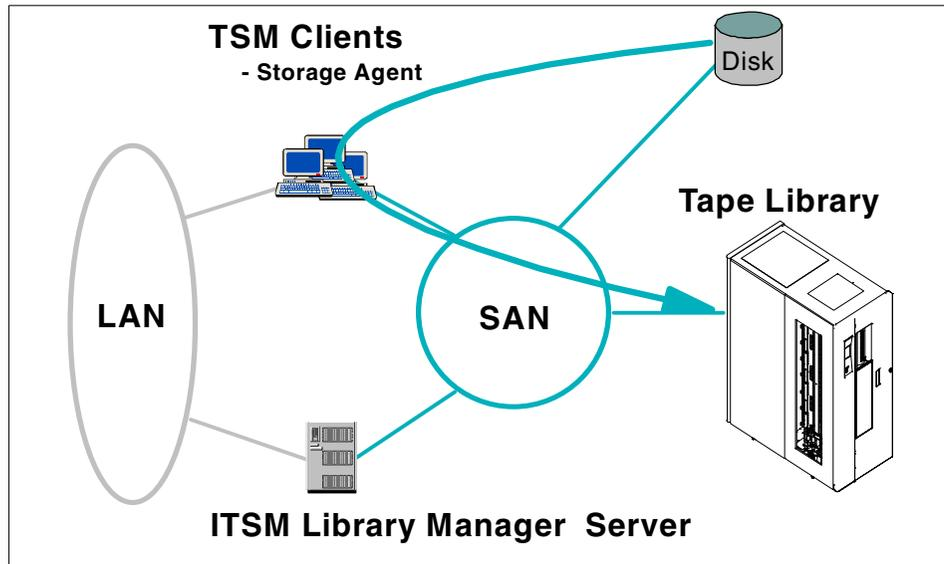

Figure 3-18 Tivoli Storage Manager LAN-free backup
*Managed System for SAN* is a feature of IBM Tivoli Storage Manager that enables LAN-free data movement. The Tivoli Storage Manager client data moves directly to and from a storage device attached to a SAN. A Tivoli Storage Manager storage agent is installed on the client machine and shares storage resources with the Tivoli Storage Manager server. The storage agent can write directly to storage media in a format that is consistent with that used by the server. The Tivoli Storage Manager server or servers controls the storage devices and keeps track of the data that the client has stored. Tivoli Storage Manager continues to use a LAN connection to exchange control information, such as policy information and data about the objects that are backed up. Using the SAN for client data movement decreases the load on the Tivoli Storage Manager server and allows the server to support a greater number of simultaneous client connections. See Figure 3-18 on page 76.